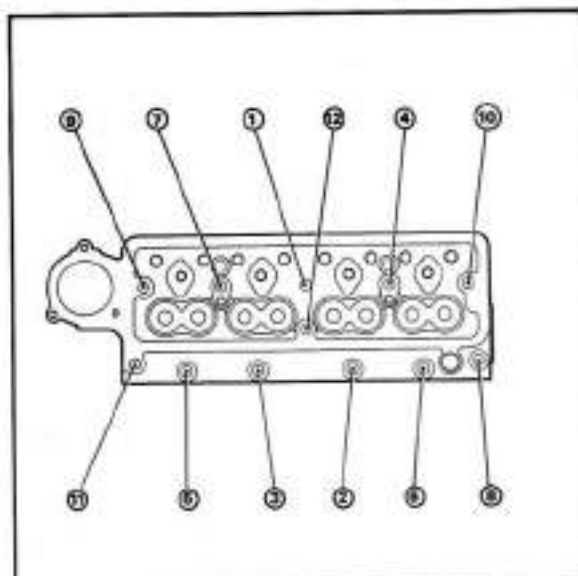

Figure 13 Cylinder head nut tightening sequence
- 17 Replace in reverse order after cleaning the cylinder head and block faces and fitting a new gasket. To ensure a good seal when replacing head, smear grease around the metal edges of the gasket bore eyelets. Tighten the cylinder head nuts to a torque of 3.46kg m (25lb ft) in the sequence shown in Figure 13. The three $\frac{5}{8}$ UNF nuts must be fitted to the spark plug side of the cylinder head and tightened to a torque of 2.07kg m (15lb ft).